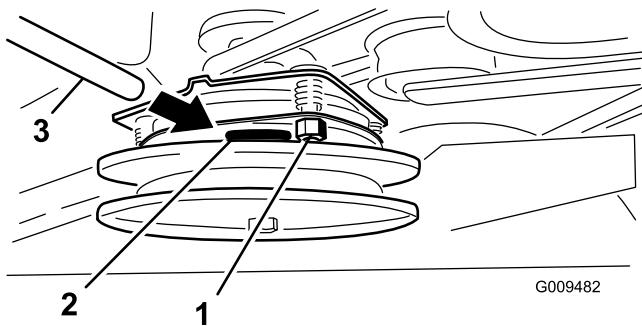

Figure 59
5. Tighten the locknuts until there is slight binding on the feeler gauge but it can be moved easily within the air gap (Figure 59).